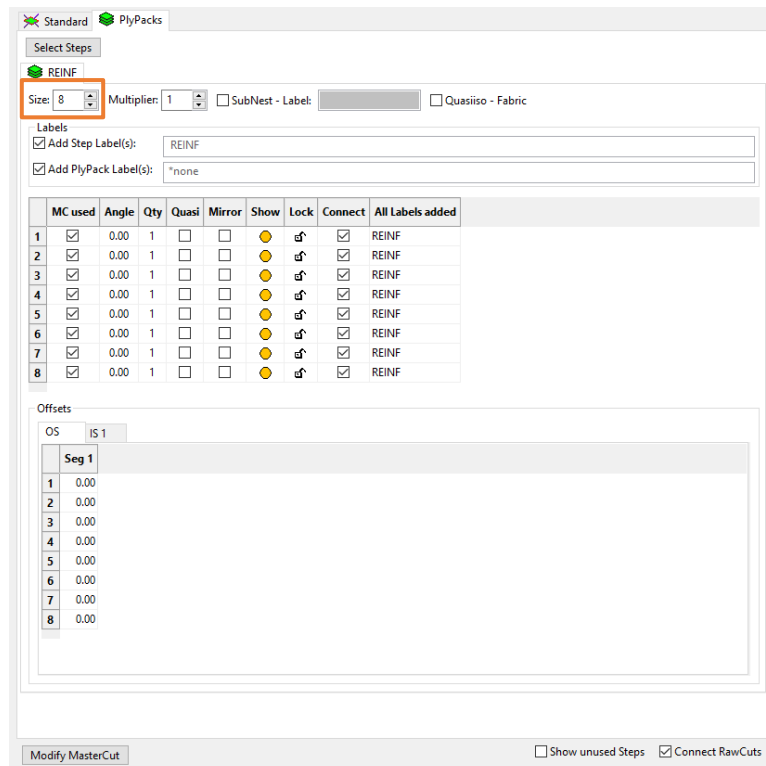

Figure 193
6. Now a new TAB is generated named after the selected step (in this case REINF). To get a better impression of what we can do with the PlyPack tab let's assume we want to add 8 tapered ring cuts instead of three. Therefore set the Size from one to 8 (Figure 193).